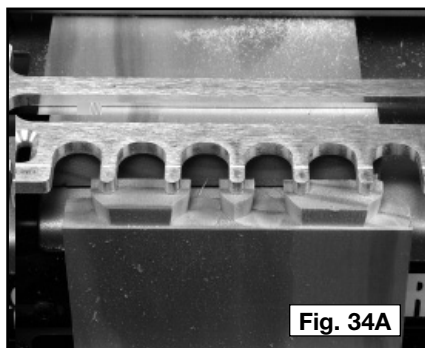

Fig. 34A
- Step 2** - Cut only between the fingers where you want the pins to be (Fig. 34A).